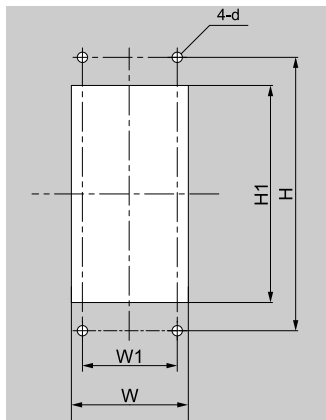

Figure 5.37 Internal/Flush-Mount Enclosure Panel Cut-Out Dimensions
1. Use the dimensions in Figure 5.37 and Table 5.11 to cut an opening and tap two holes in the enclosure panel. The panel cut-out dimensions are the same for installation support sets A and B.